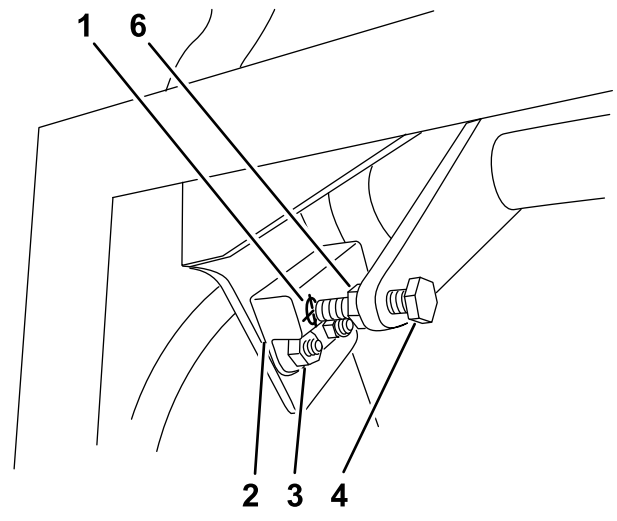

Figure 57
1. Ensure that the bolt attached to the motion-control lever aligns with the proximity-switch target (Figure 57).
2. If needed, loosen the bolts and adjust the proximity switch until the target aligns with the bolt attached to the motion-control lever (Figure 57).
3. Check the distance of the bolt to the proximity switch; it needs to be between 0.51 to 1.02 mm (0.02 to 0.04 inches) as shown in Figure 57.
5. Tighten the jam nut after adjusting the bolt (Figure 57).